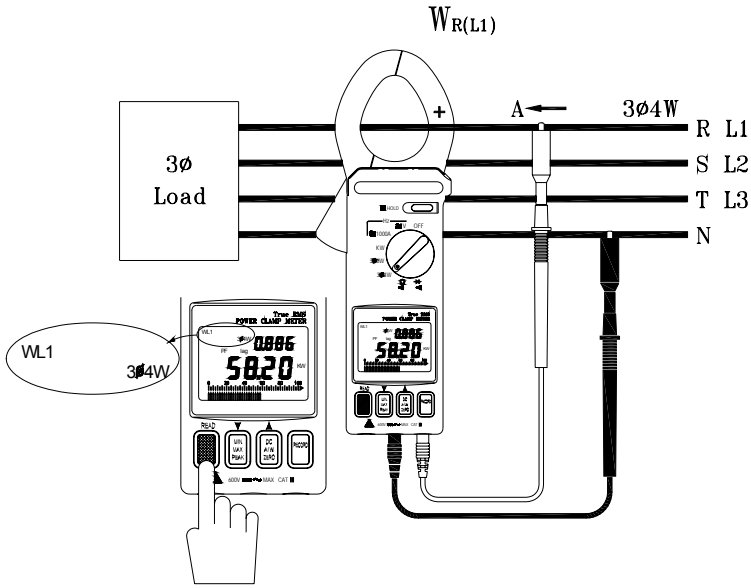

Figure 7
B. Measure $W_{S(L2)} / P_{FS(L2)}$ (refer to figure 7)